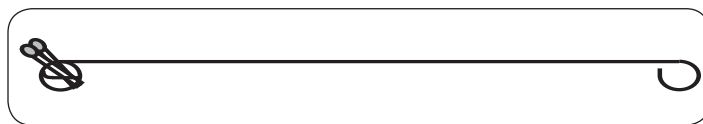

Fig. 9-2 - Match holder
2. Insert either a burning long-barrel butane lighter, a burning long-stem match, or a burning match held by a wire extension holder (Fig. 9-2) through the cooking grids to the burner (Fig. 9-3). Hold the flame against the edge of the burner.